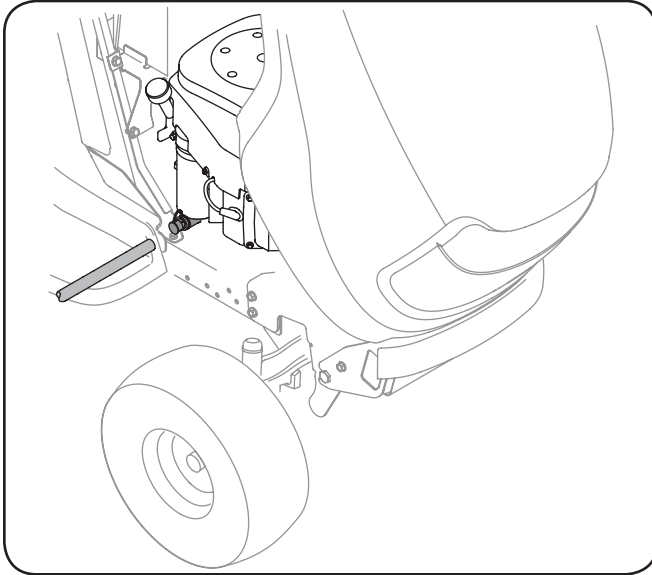

Figure 6-1
- Pop open the protective cap on the end of the oil drain valve to expose the drain port. See Fig. 6-1.